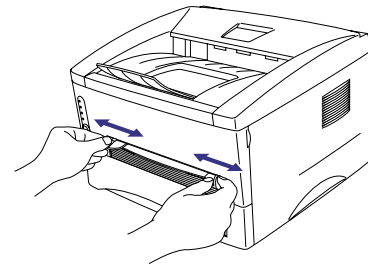

Fig. 2-23
- (2) Set the width of the manual feed slot paper guides using both hands to the paper width to be used. (Fig. 2-23)